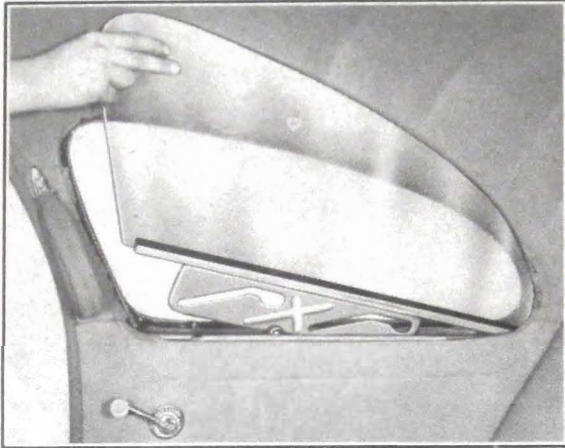

Fig. 1-74. Rear Quarter Window—Series 40-60 Coupes
- the cam washers are in line with the cut-out in the lower glass sash channel cam plate. See Fig. 1-74. Disengage the forward cam first and then the rear cam. Lift glass from opening.